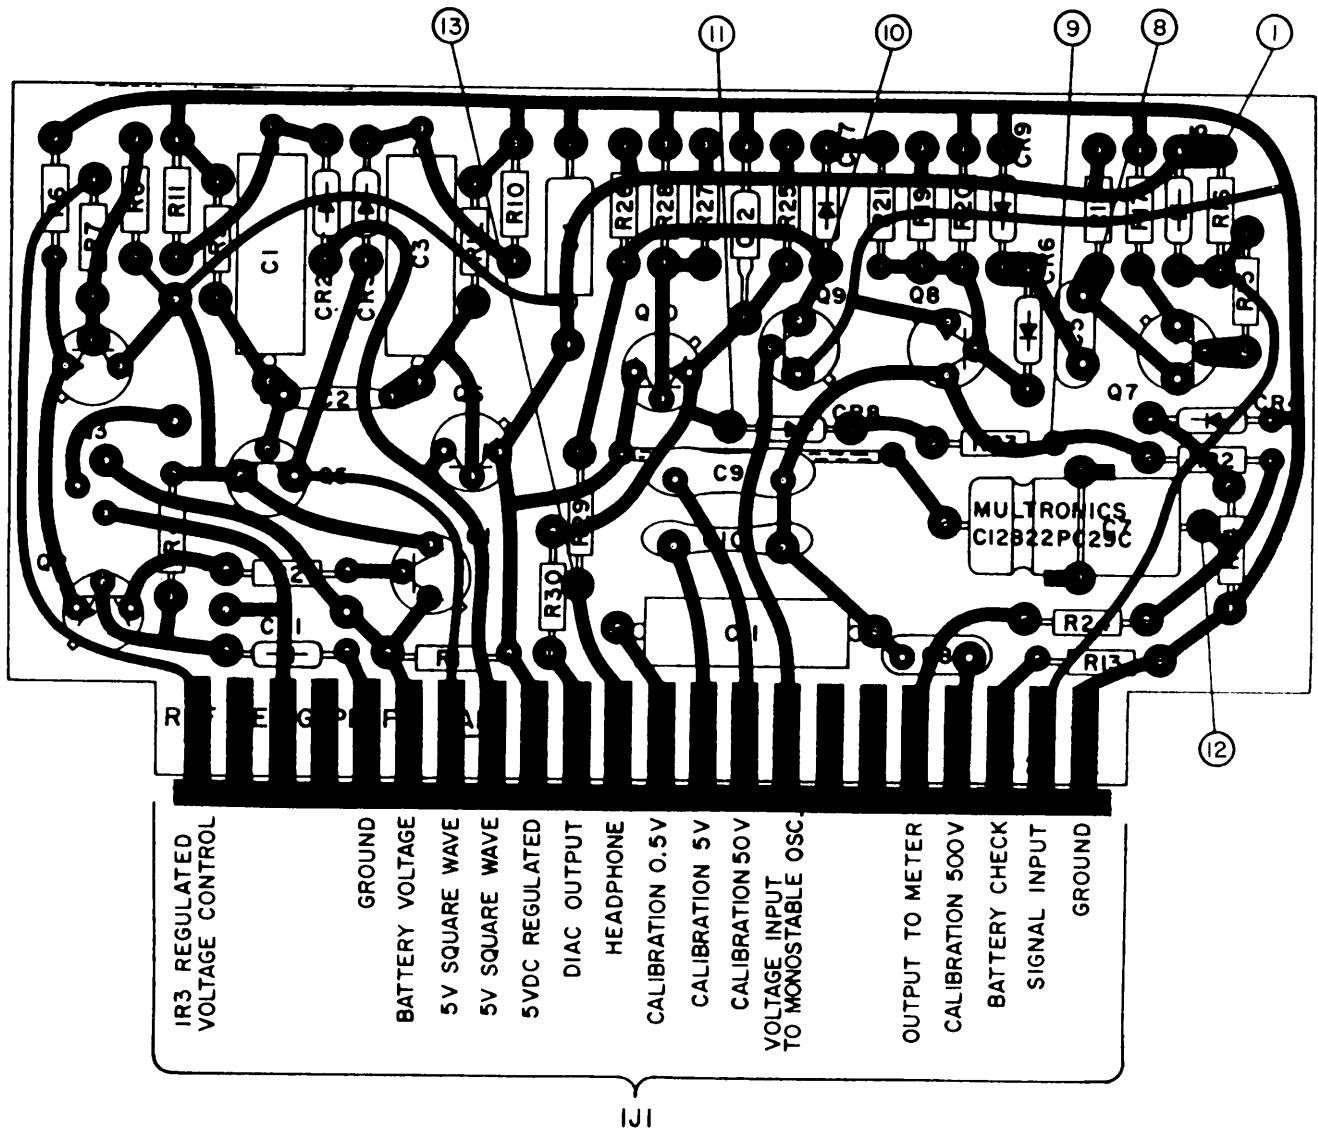
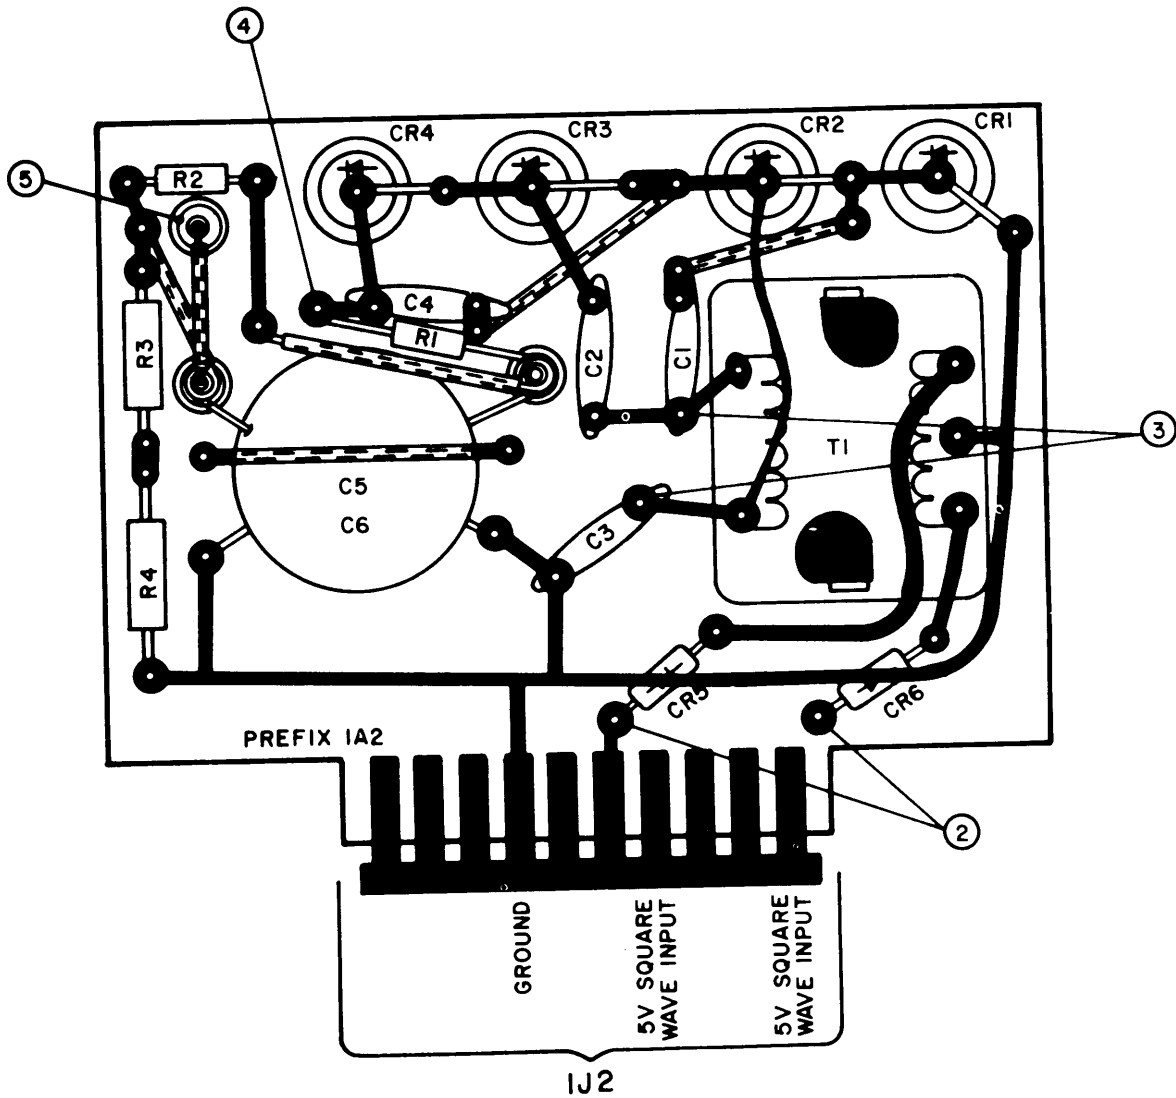

Figure 2-1. Low Voltage Assembly, 1A1, Component and Test Point Locations.
Figure 2-2. High Voltage Assembly 1A2, Component and Test Point Locations.
- d. Replacement of parts on printed circuit boards (fig. 2-1 and fig. 2-2) will be performed only at an authorized radiac repair facility.
- (1) *Operation*. An operational test can help pinpoint trouble quickly (TM 11-6665-230-12).
- (2) Use of the *troubleshooting table*. The troubleshooting table, table 2-1, lists common symptoms, troubles, and corrective measures. Not all trouble symptoms are listed in the table, so use it as a guide for analyzing symptoms not listed.
- (3) Test *point data*. See figure 2-1, figure 2-2, and figure FO-1. Use with the troubleshooting chart to isolate defective parts.
- (4) *Removing and replacing parts*. Refer to TM 11-6665-230-40P.